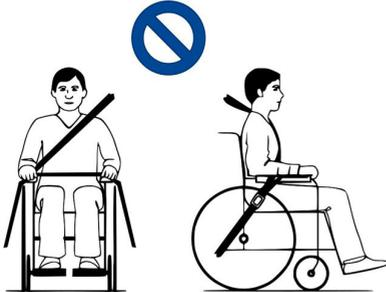

Figure 3
6. Make sure that belts are not twisted or held away from the body as shown in figure 3.